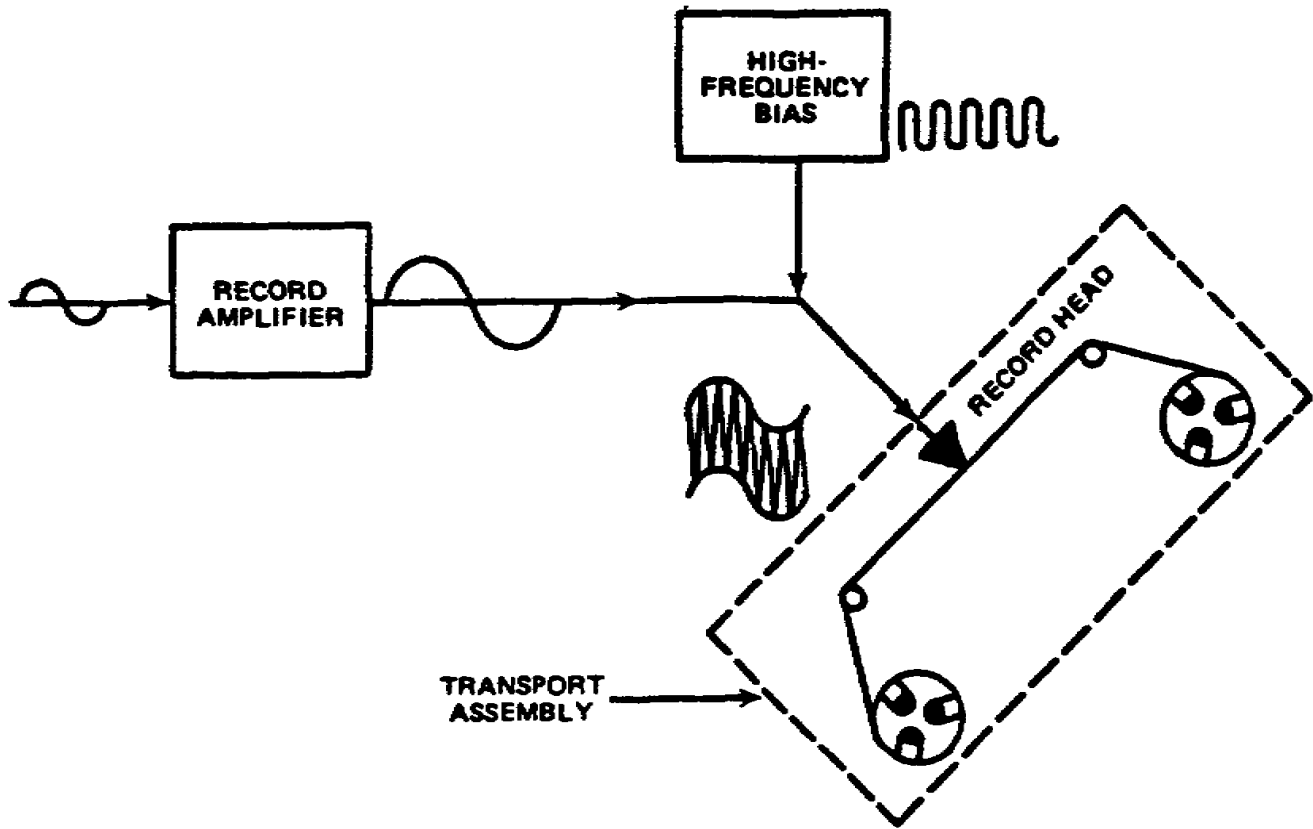

Figure 3-6. Recording with high-frequency bias
(1) The magnetic fluctuation of the tape continues until the instant the tape passes the trailing edge of the gap. The magnetic orientation at the instant of departure from the gap edge is the pattern that remains on the tape. For the best possible recording, the trailing edge of the gap should be as straight and sharp as possible. A principle difference between heads of poor quality and high quality is the definition of the gap edge. The amount of electrical signal required to produce a certain amount of magnetic flux on one head may create a stronger magnetic flux on another head because of differences in efficiency or elements of design. The signal level that causes distortion varies among heads of different manufacturers. You must take these factors into account if you substitute a different make or model of head for the one that originally came with the tape recorder.
(2) As the signal current is fed to the head; the high-frequency bias current is supplied simultaneously to the head (fig 3-6). The residual magnetization of the tape is accomplished by passing the signal current, plus a high-frequency bias current, through the recording head winding. This technique is referred to as direct recording.